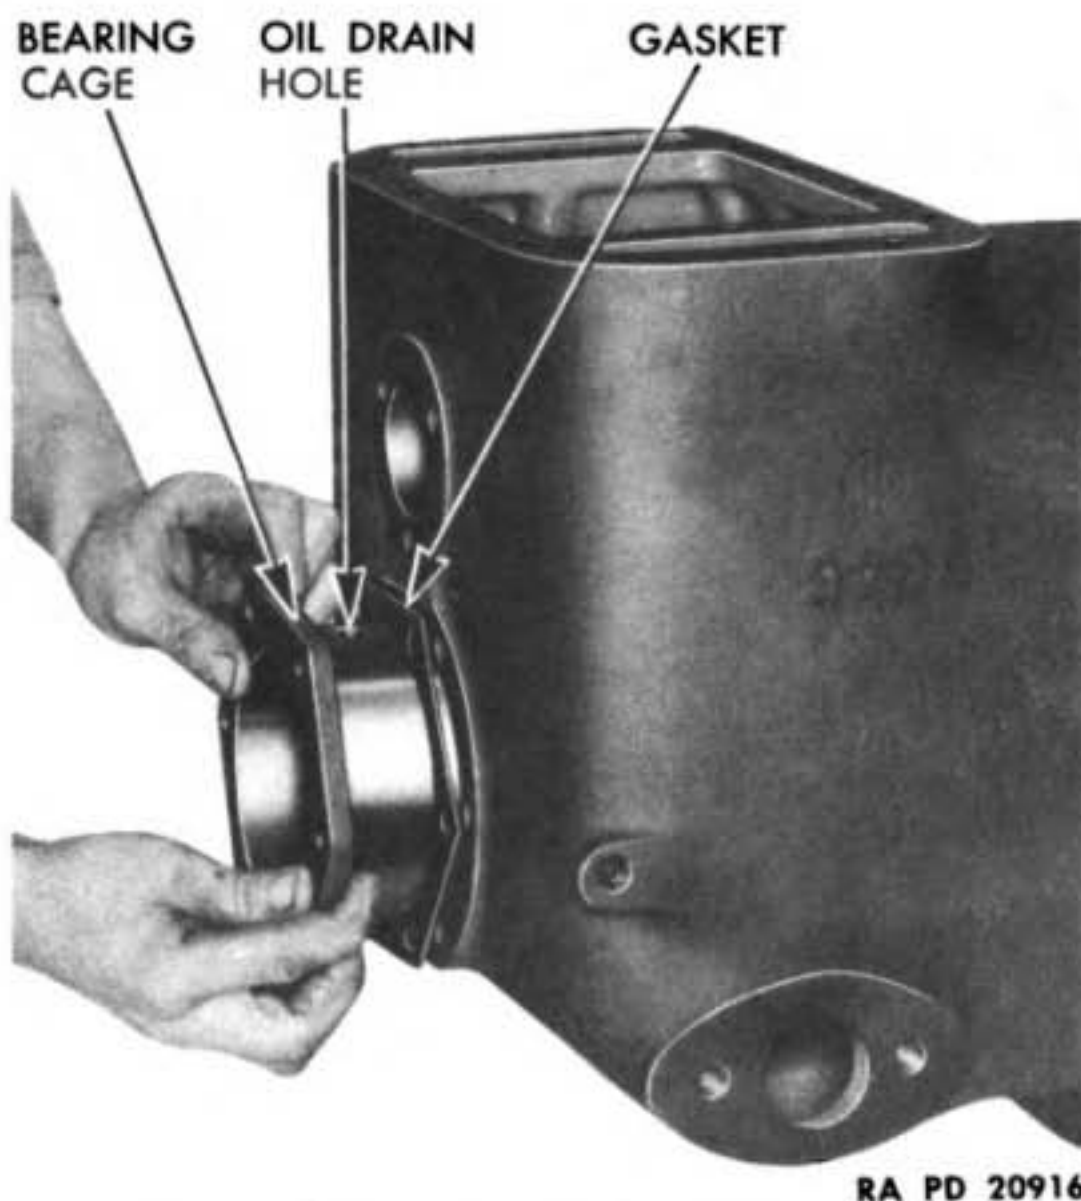

Figure 188 — Removing Front Bearing Cage
g. **Remove Front Bearing.** Remove front bearing cage (fig. 188) and gasket from front of clutch housing. Tap it with soft hammer if necessary. Remove front bearing from cage by tapping out with brass rod.
d. Install High and Low-Range Drive Shaft Assembly. Press high-range drive shaft front bearing into bearing cage, making sure the bearing and other units are kept clean. Shellac new gasket in position, and set bearing cage in place in front of clutch housing, lining up oil drain hole in bearing cage with hole in clutch housing (fig. 188). Shellac new gasket on front bearing retainer with oil seal, and install it in bearing cage. Attach retainer and bearing cage with six cap screws and lock washers to